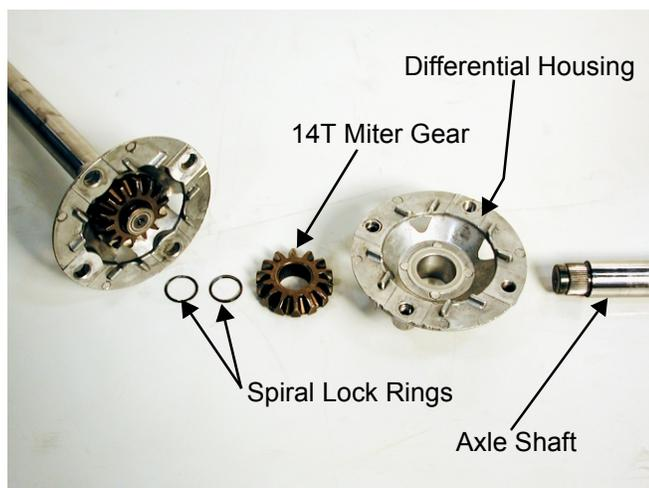

Figure 26
31. Remove the 14T miter gear and right differential housing from the right axle shaft. See Figure 26.